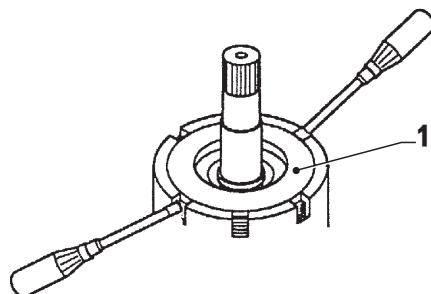

FIG. 8-1c
- Removal of pressure plate: Pressing snap ring against periphery of pressure plate (item 1, Fig. 8-1c) by means of screwdrivers. Extract it together with end disc (item 1, Fig. 8-1c). The clutch discs can now be removed from the coupling housing.